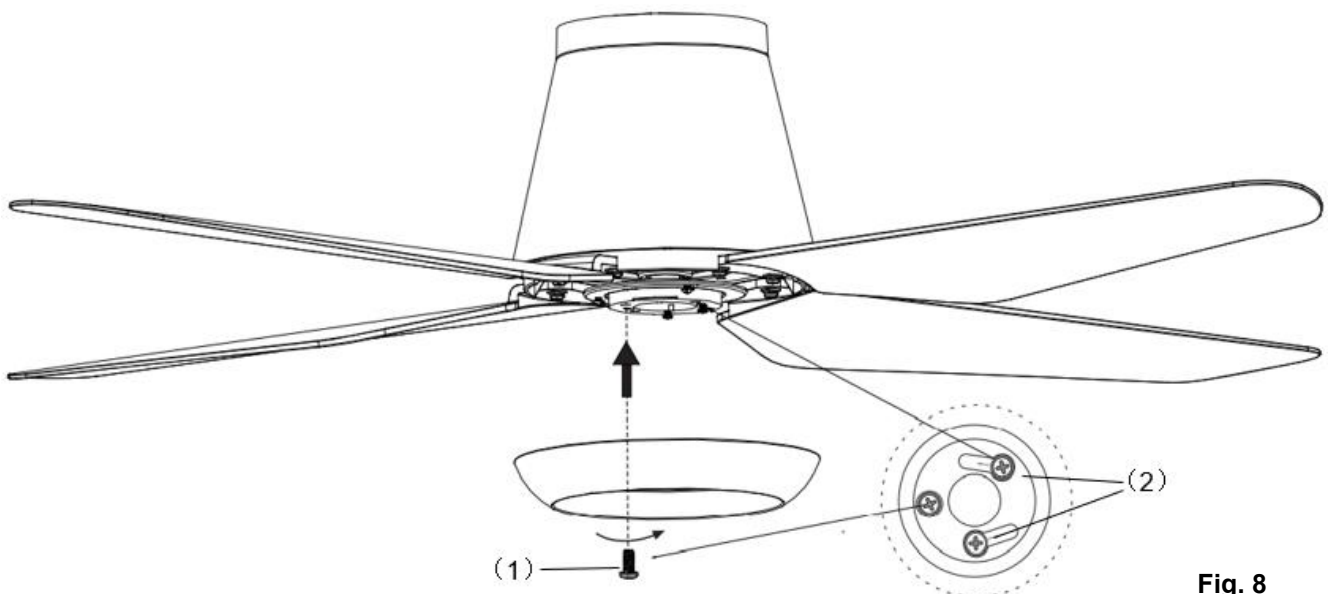

Fig. 8
INSTALLATION OF LIGHT KIT (Fig. 8)
1. Loosen the screw (1) from the fan bracket. (Fig. 8)
2. Align the two slot screws with the keyhole slots (2) of the light kit plate. (Fig. 8)
3. Turn the light kit plate counterclockwise until the slot screws are firmly at the end of the slots (2).
4. Secure screw (1) to the lamp shade bracket. Tighten all three screws. Do not over-tighten.